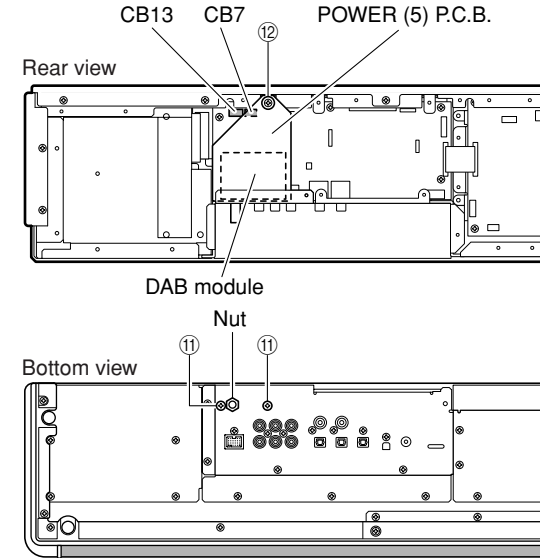

Fig. 4
- Remove 2 screws (11). (Fig. 4)
- Remove nut. (Fig. 4)
- Remove screw (12). (Fig. 4)
- Remove CB7 and CB13. (Fig. 4)
- Remove POWER (5) P.C.B. together with DAB module. (Fig. 4)